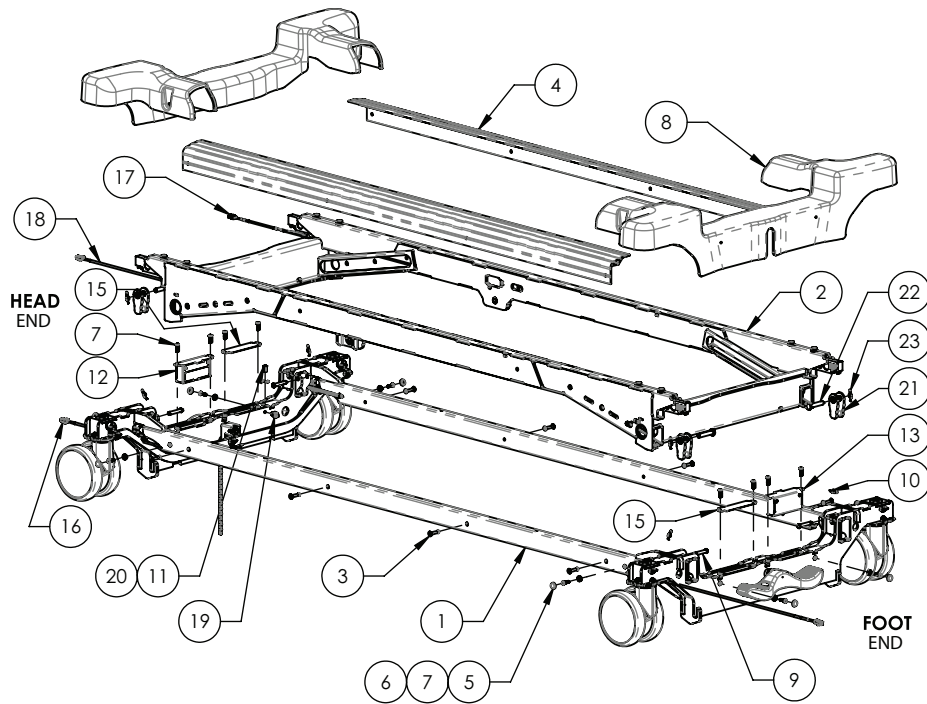

Figure 34 – Scale board replacement
5. Using a small flat head screwdriver, remove and save the four caster cover screw caps (6) (Figure 34).
6. Using a #2 Phillips screwdriver, remove and save the four screws (7) and washers (5) that secure the castor cover (8) to the base frame (Figure 34). Remove and save the castor cover.